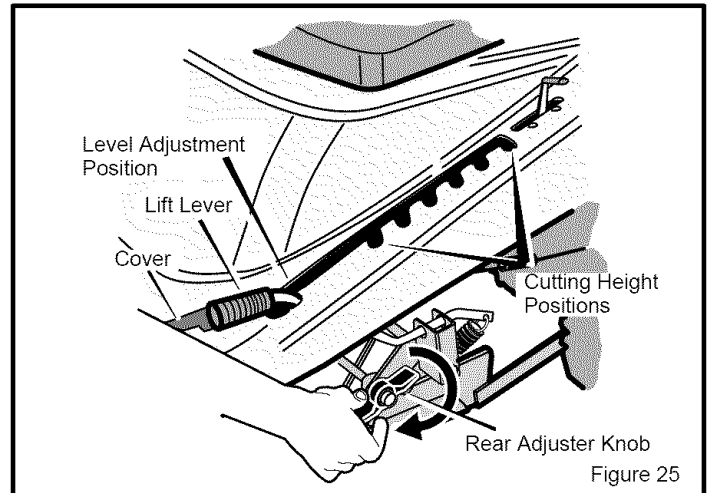
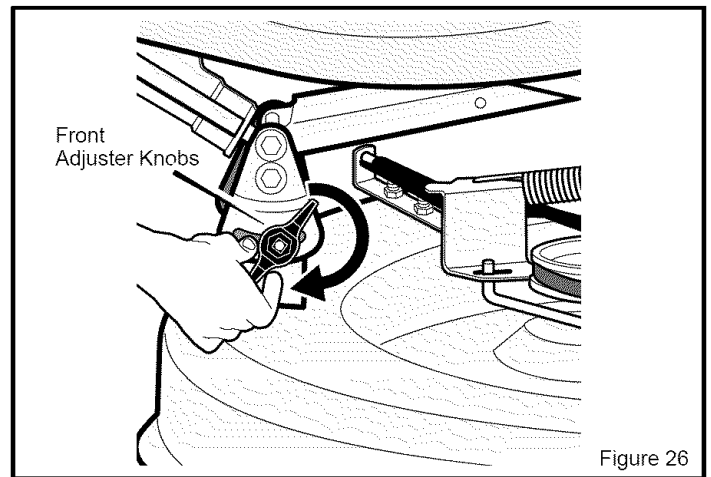

Figure 25
Figure 26
3. Open the cover (see Figure 25).
4. Move the lift lever to the LEVEL ADJUSTMENT position (see Figure 25).
5. Loosen the front and rear adjuster knobs (see Figure 25 and Figure 26). Make sure both sides of the mower housing are setting on a flat surface. Also, make sure the lift links and adjuster plates are loose and can easily move up or down.